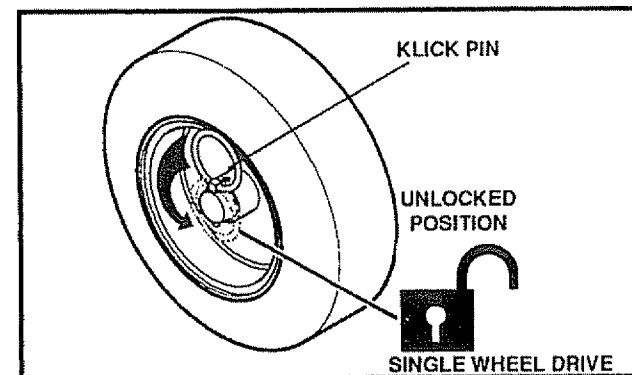

FIG. 12B
- For ease of maneuverability in light snow conditions, disconnect the klick pin from the wheel locked position and push into the single wheel drive (unlocked axle hole only) position (See Fig. 12B).